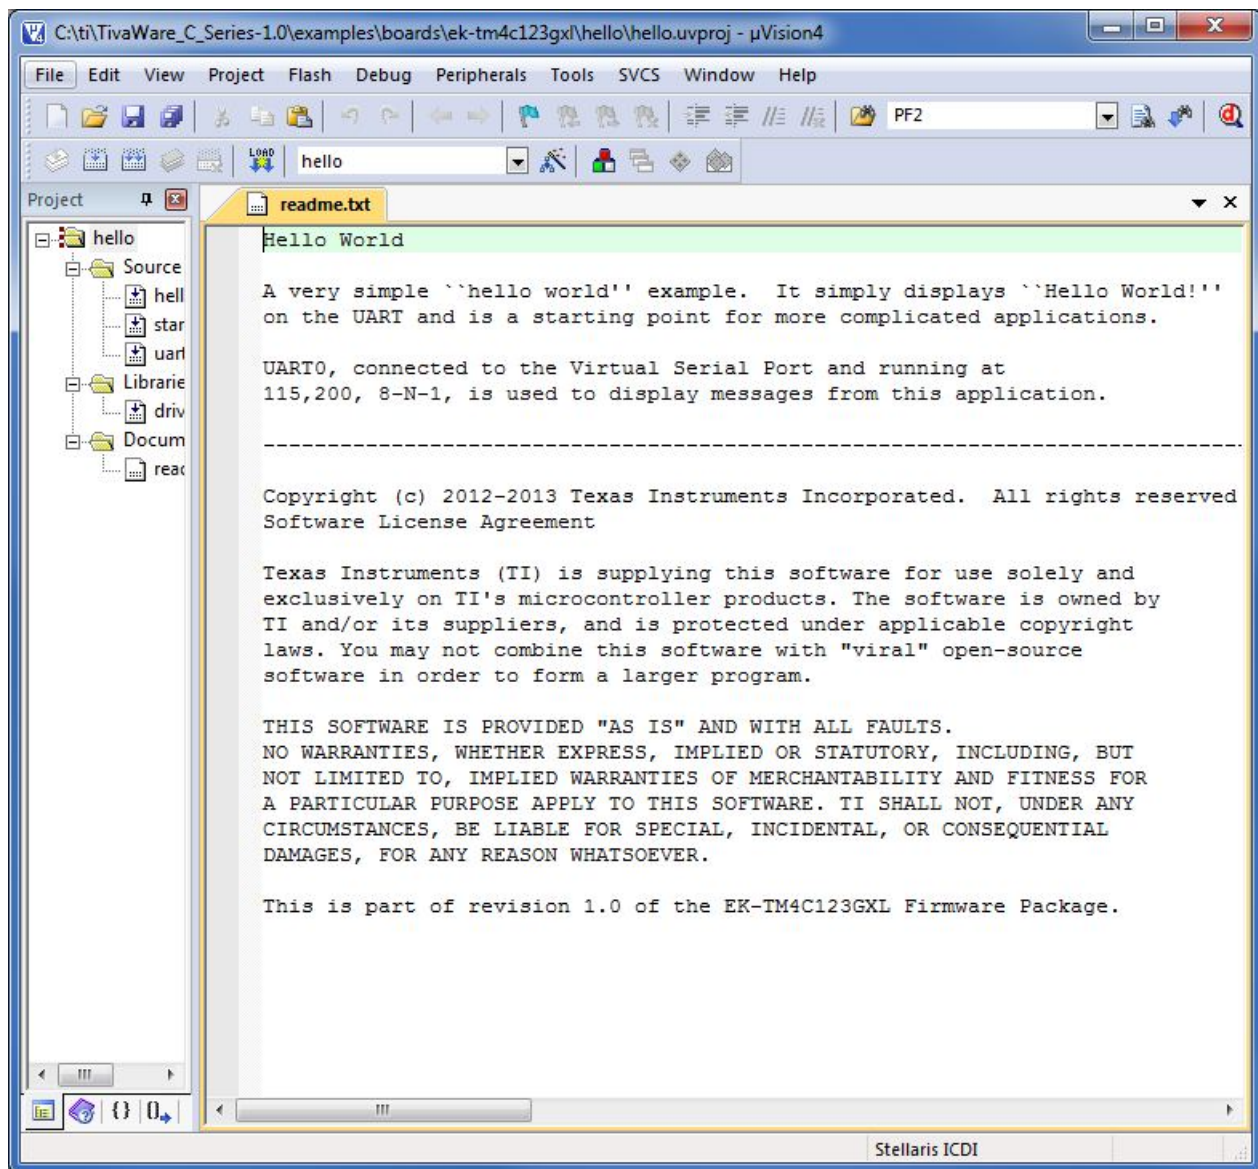

Figure 3.
4. Select the hello.uvproj project file and click Open. The project opens in the IDE (see Figure 3).